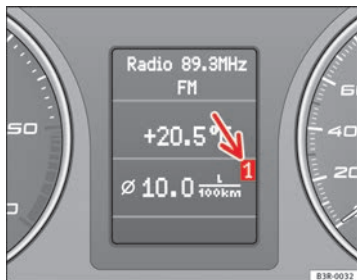

Fig. 59 Onboard computer: memory 1
The numbers in the display ⇒ fig. 59 indicate which of the two memories is currently in use. A **1** means that the display is showing the information in the single journey memory (onboard computer 1). A **2** means that the display is showing the information in the total journey memory (onboard computer 2).
- Press the reset button **(B)** repeatedly until the onboard computer (memory 1 or 2) ⇒ page 85, fig. 59 is displayed.